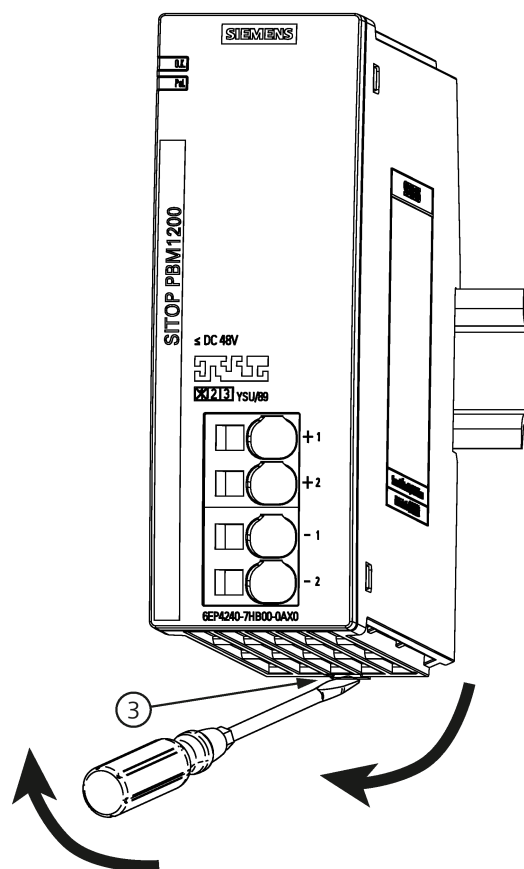

Figure 3-10 Mounting/removal
To remove, pull up the slider ③ using a screwdriver (see Figure 3-10 Mounting/removal (Page 63)) and disengage the device at the bottom edge of the standard mounting rail. Then you can remove the device from the upper edge of the standard mounting rail.